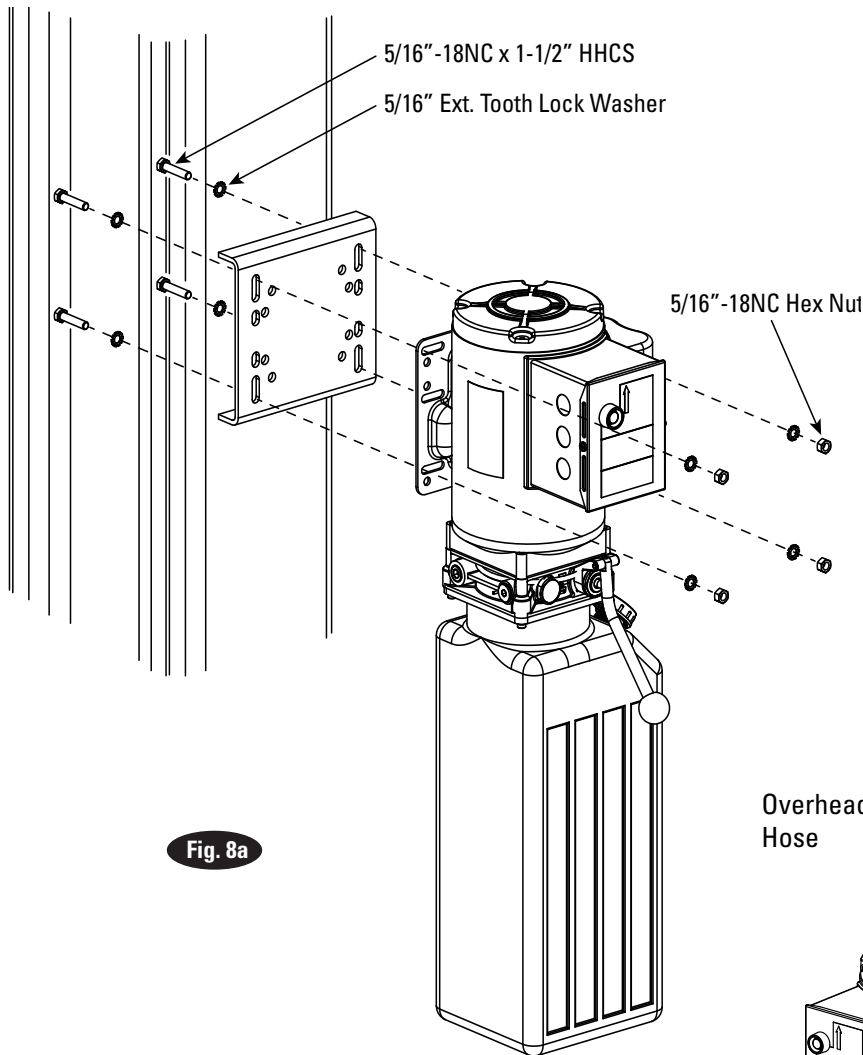
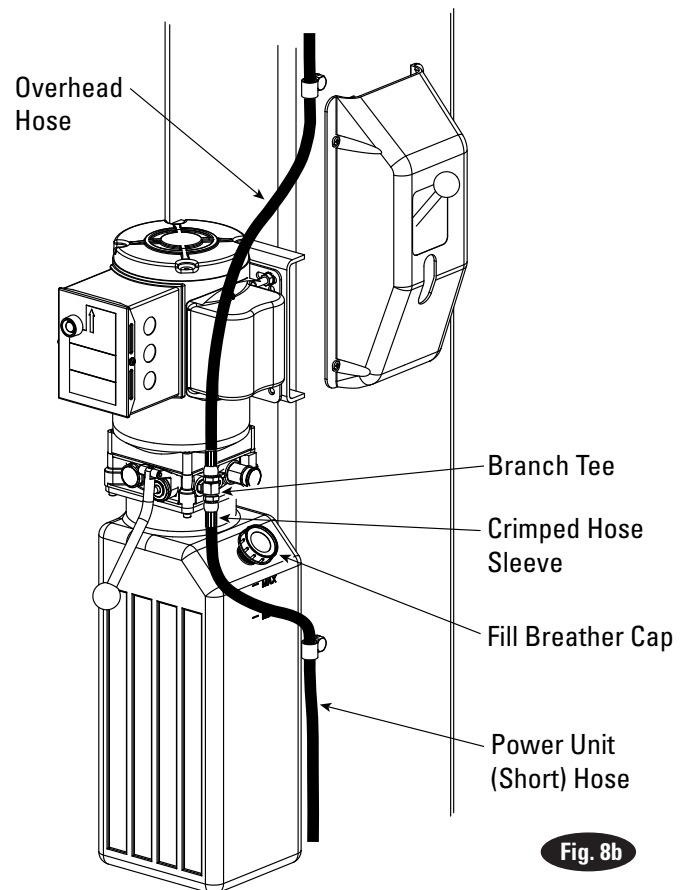
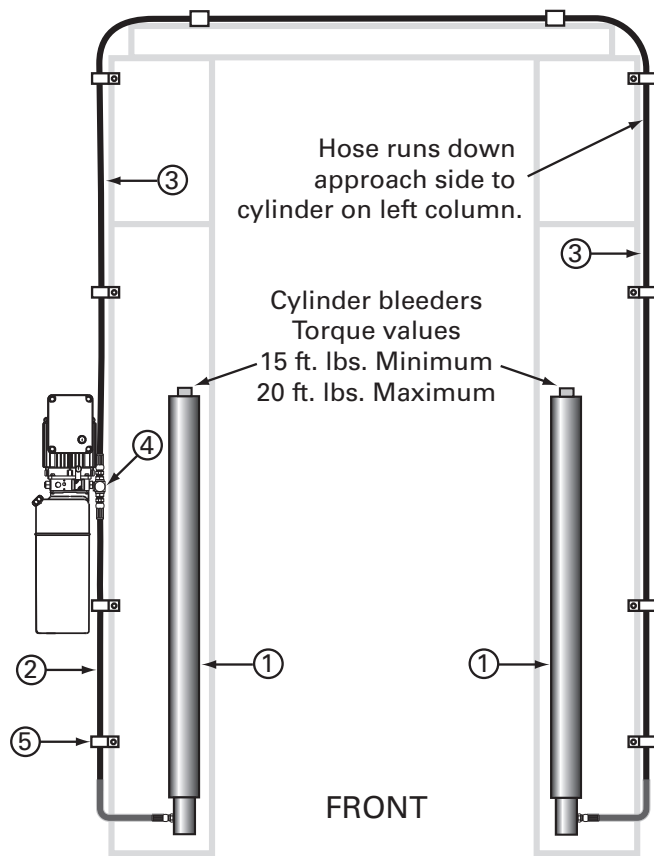
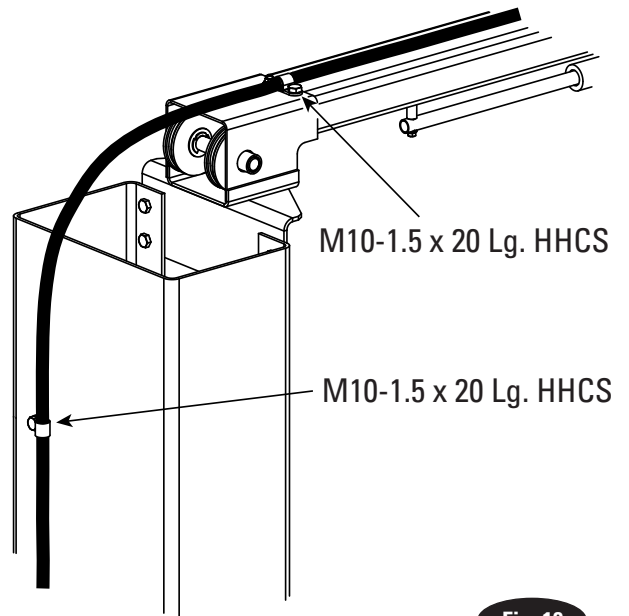

Fig. 8a
Fig. 8b
Fig. 9
Fig. 10
**9. Power Unit:** Put the (4) 5/16" -18NC x 1-1/2" HHCS thru holes in power unit bracket using (4) 5/16" Ext. Tooth Lock Washers. Mount power unit with motor up to column bracket and install (4) 5/16" Ext. Tooth Lock Washers and (4) 5/16" -18NC Hex Nuts, Fig. 8a. Install and hand tighten Branch Tee to pump until O-ring is seated. Continue to tighten the locknut to 10-15 ft-lbs., or until the nut and washer bottom out against the pump manifold, Fig. 8b.
**10. Hoses:** Clean adapters and hose. Inspect all threads for damage and hose ends to be sure they are crimped, Fig. 8b. Install hose and hose clamps, Fig. 9.
**Adapter & Hose Installation (see Fig. 9)**
1. Install Pc. (2) with metal hose clamps, on power unit column side connecting it to the cylinder (1) first.
2. Install Pc. (3) with plastic hose clamps starting at opposite column cylinder (1) and working toward the power unit column. All excess hose should be at bends & inside overhead assembly.
3. Install Pc. (4) into power unit.
4. Connect Pc. (2) & Pc. (3) to Tee (4).
**NOTE:** Route Power Unit hose outside columns using mounted clips, Fig. 9. Route Overhead Hose on top of column channel on outside of column, Fig. 9. Overhead hose goes over top end of overhead assembly, Fig. 10.